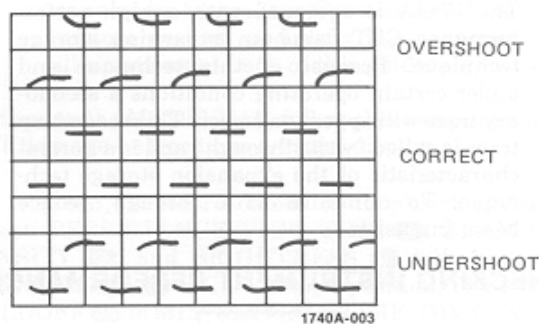

Figure 3. Probe Compensation
8. Adjust divider probe compensation for correct display (see figure 3).